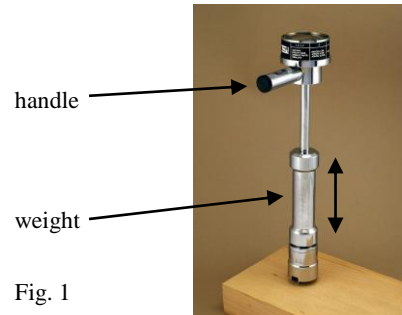

Fig. 1
- hold the device with your left hand by the handle with battery compartment (see fig. 1),